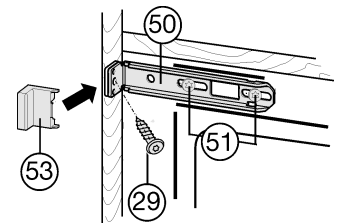

Fig. 16
- ▶ Loosen the screws *Fig. 16 (51)* a little.
- ▶ Tightly screw the top mounting bracket *Fig. 16 (50)* to the unit wall using Spax screw *Fig. 16 (29)* $\varnothing 4 \times 19$.
- ▶ Break off the projecting end of the cover *Fig. 16 (53)*.
- ▶ Tighten the screws *Fig. 16 (51)*.
- ▶ Put on the cover *Fig. 16 (53)*.